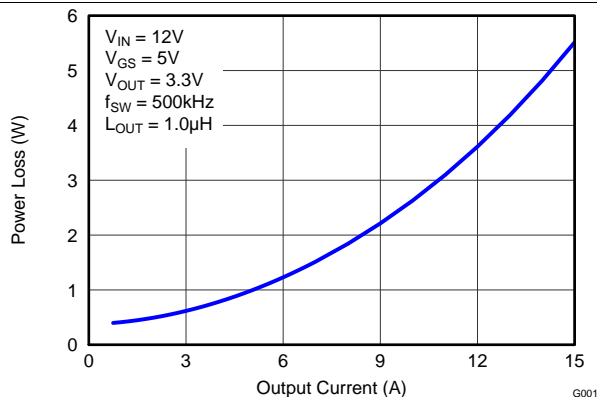
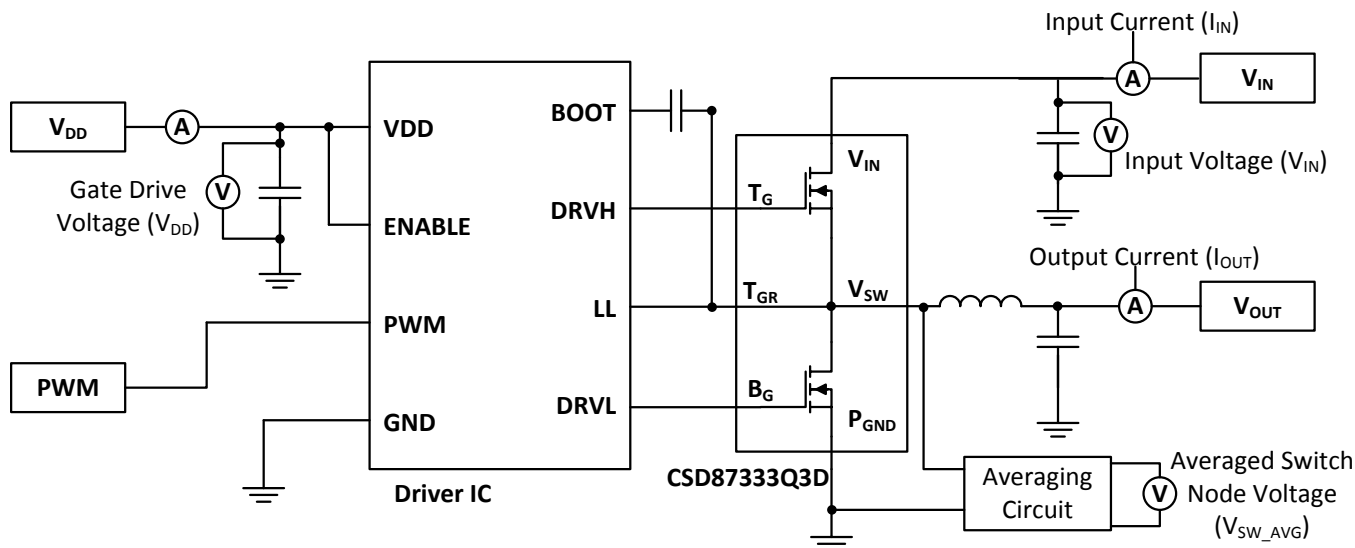

Figure 1. Power Loss vs Output Current
Figure 19. Typical Application
The typical power block system characteristic curves (Figure 1 through Figure 9) are based on measurements made on a PCB design with dimensions of 4 in (W) × 3.5 in (L) × 0.062 in (H) and 6 copper layers of 1-oz copper thickness. See Applications for detailed explanation. $T_A = 125^\circ\text{C}$, unless stated otherwise.
MOSFET centric parameters such as $R_{DS(ON)}$ and Q_{gd} are needed to estimate the loss generated by the devices. In an effort to simplify the design process for engineers, Texas Instruments has provided measured power loss performance curves. Figure 1 plots the power loss of the CSD87333Q3D as a function of load current. This curve is measured by configuring and running the CSD87333Q3D as it would be in the final application (see Figure 19). The measured power loss is the CSD87333Q3D loss and consists of both input conversion loss and gate drive loss. Equation 1 is used to generate the power loss curve.
The power loss curve in Figure 1 is measured at the maximum recommended junction temperatures of 125°C under isothermal test conditions.
- Power loss at 10 A = 2.6 W (Figure 1)